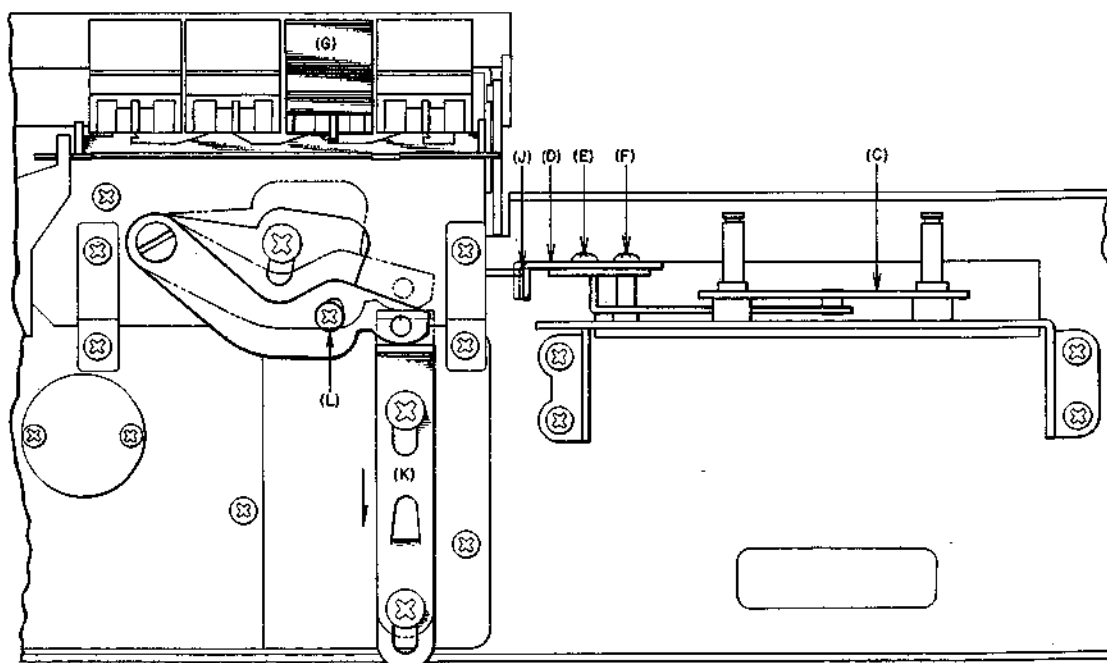

Fig. 10 (B)
(3) ADJUSTMENT OF KEYBOARD SELECTOR KNOBS PROTECTION DEVICE (See Fig. 10 (A) (B))